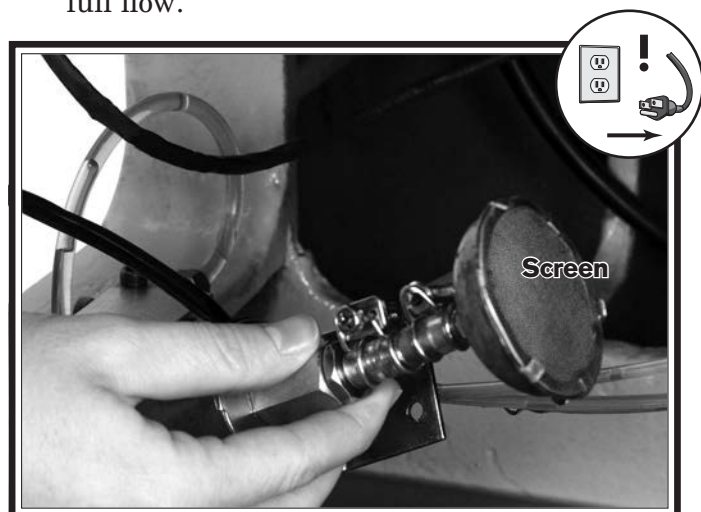

Figure 48. Oil pump screen.
7. Invert the pump and inspect the suction screen (see **Figure 48**). Clean the screen with mineral spirits as required to ensure full flow.